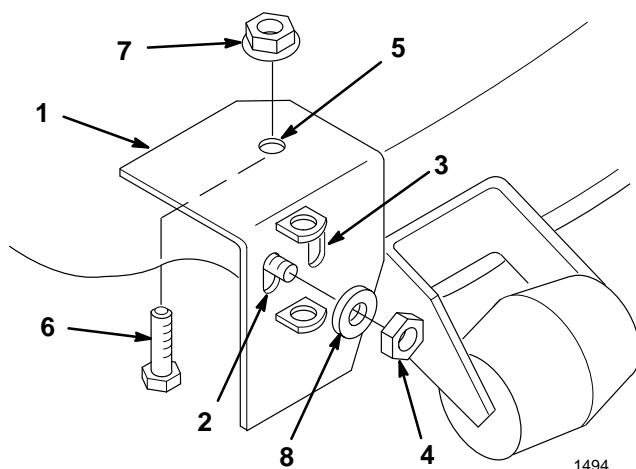

Figure 8
1. Select proper hole in the pivot support (42" deck=outside, 48" deck= inside) and slide it over the threaded stud welded to front of mower near discharge opening (Fig. 8).
2. Align pivot support parallel with front curved edge and tight against top of mower (Fig. 8). Clamp in this position.
3. Drill a 11/32" diameter hole in the top of the mower deck using the pivot support as a guide. Secure the pivot support to the mower with a 5/16 x 3/4" (19 mm) bolt, through from the underside of the mower, and a flange nut (Fig. 8). Place the 3/8" jam nut (removed from discharge chute) snug onto stud. Do not overtighten jam nut.